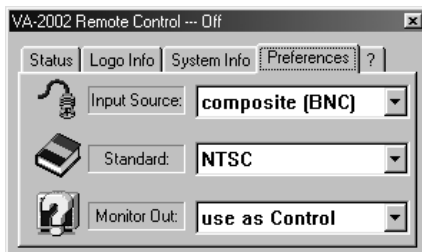

Figure 21: Selecting the Preferences via the VA-2002 Remote Control Window
5. Click the Preferences tab¹ to select the input source (composite video or s-Video) and the video standard (PAL or NTSC), as Figure 21 illustrates. In addition, you can set the MONITOR outputs to function as an additional pair of OUTPUT connectors.